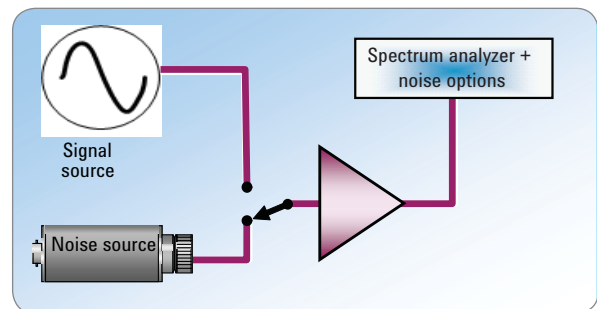

Figure 20. Automated test system
- **Automated-test environments** where a switch matrix is used between the test equipment and the AUT (Figure 20)